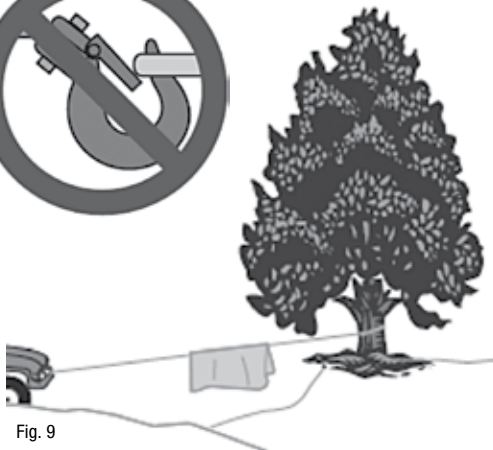

Fig. 9
- Place a rug or carpet over the winch cable span (approx. 6' from the hook) to help absorb the force released if the cable breaks (see figure 9).